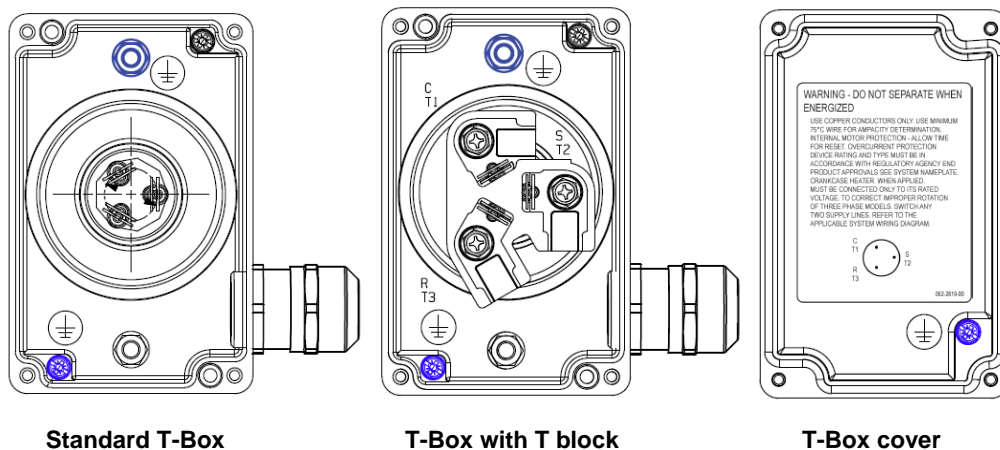

Figure 20
Assemble the cable gland M25 with a torque of 9.8 - 10 Nm. The cable gland is designed for cable diameters of 10 to 17 mm – see **Figure 20 & Table 11**. The degree of protection (IP) will be safeguarded only if sealing and cable glands are properly assembled. Only run the compressor with permanently wired cables. The system manufacturer/installer shall provide the required strain relief.